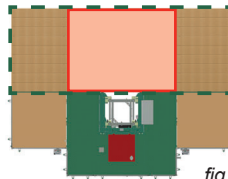

fig. 1.83
- 3- Install planks to cover the area in front of the mast (fig. 1.83).
- 6- Make sure to **remove the planks from the area in front of the mast** (fig. 1.83). Make sure the outriggers clear all obstacles. Lower the motorized unit to where the next mast section must be removed.